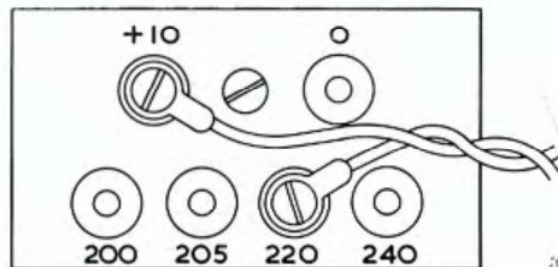
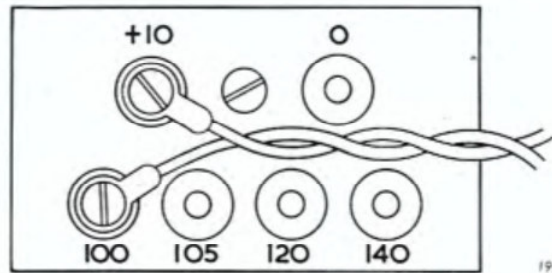

Fig. 5.3 Tapping Panel Connections for 230 Volts.
Fig. 5.4 Tapping Panel Connections for 110 Volts.
Reverse the reference plate on the main tapping panel so as to reveal the side marked with the voltages appropriate to the new range as shown in Fig. 5.3 and Fig. 5.4.
- (b) *To change from one intermediate voltage to another within the selected range, e.g. from 240 to 230 volts, do not take off the case, but remove the small cover plate in the right-hand case handle recess to expose the mains tapping panel. Reposition the two screw secured fly-leads to the tapping points that give a combination to suit the supply voltage. For example, take the leads to the tapping points marked '220' and '+10' for 230-volt working. The tapping panel is illustrated in Fig. 5.3 and Fig. 5.4.*